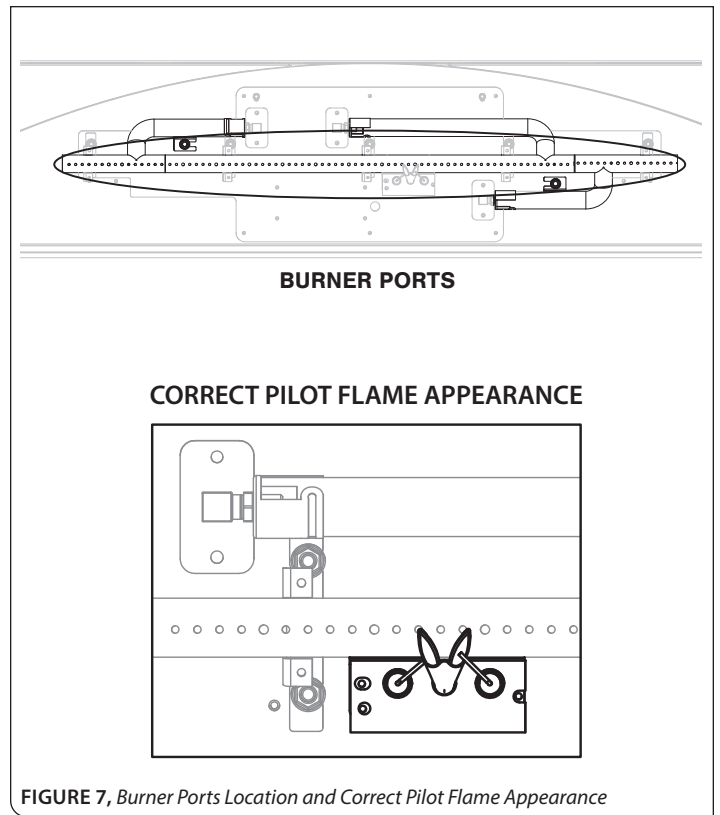

FIGURE 7, Burner Ports Location and Correct Pilot Flame Appearance
- Step 1: Loosen the inlet (IN) pressure tap screw (counterclockwise) on the gas valve. See (A) in **FIGURE 7**.
- Step 1: Loosen the manifold (OUT) pressure tap screw (counterclockwise) on the gas valve. See (B) in **FIGURE 7**.